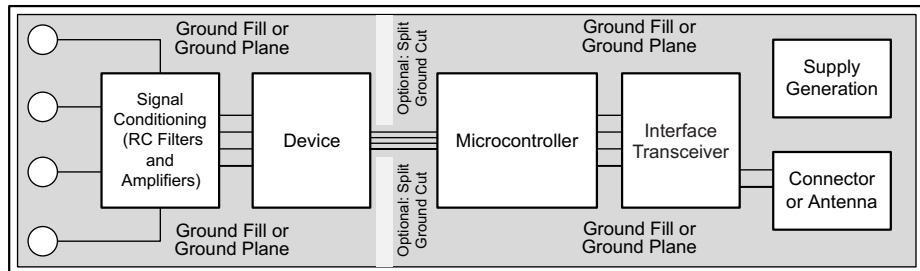

图 103. System Component Placement
Employing best design practices is recommended when laying out a printed-circuit board (PCB) for both analog and digital components. This recommendation generally means that the layout separates analog components [such as ADCs, amplifiers, references, digital-to-analog converters (DACs), and analog MUXs] from digital components [such as microcontrollers, complex programmable logic devices (CPLDs), field-programmable gate arrays (FPGAs), radio frequency (RF) transceivers, universal serial bus (USB) transceivers, and switching regulators]. 图 103 shows an example of good component placement. Although 图 103 provides a good example of component placement, the best placement for each application is unique to the geometries, components, and PCB fabrication capabilities employed. That is, there is no single layout that is perfect for every design and careful consideration must always be used when designing with any analog component.